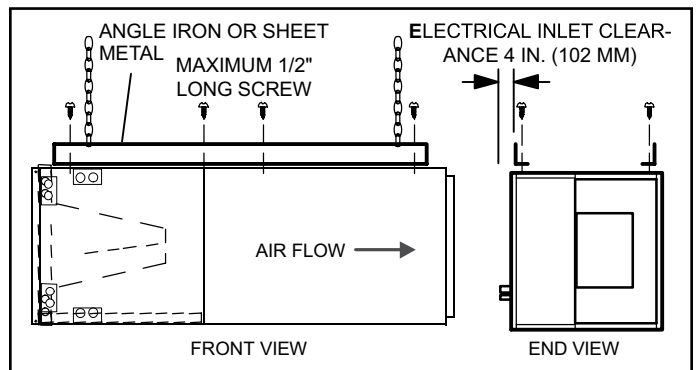

Figure 10. Suspending Horizontal Unit
- If the unit is suspended, the entire length of the cabinet must be supported. If you use a chain or strap, use a piece of angle iron or sheet metal attached to the unit (either above or below) to support the length of the cabinet. Use securing screws no longer than 1/2 inch to avoid damaging the coil or filter. See Figure 10. Use sheet metal screws to connect the return and supply air plenums as required.
12. If suspending the unit, it must be supported along the entire length of the cabinet. If using chain or strap, use a piece of angle iron or sheet metal attached to the unit (either above or below) so that the full length of the cabinet is supported. Use securing screws no longer than 1/2" to avoid damage to coil or filter, as illustrated in Figure 10. Connect return and supply air plenums as required using sheet metal screws.